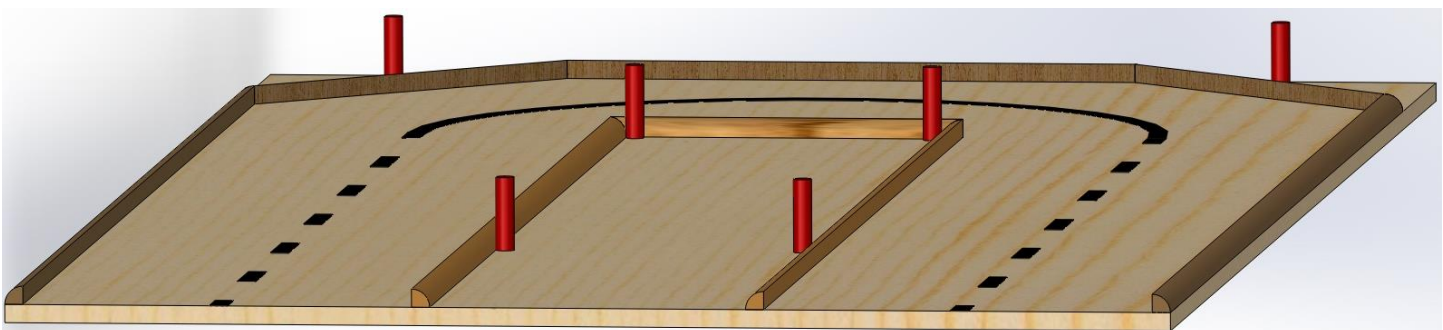
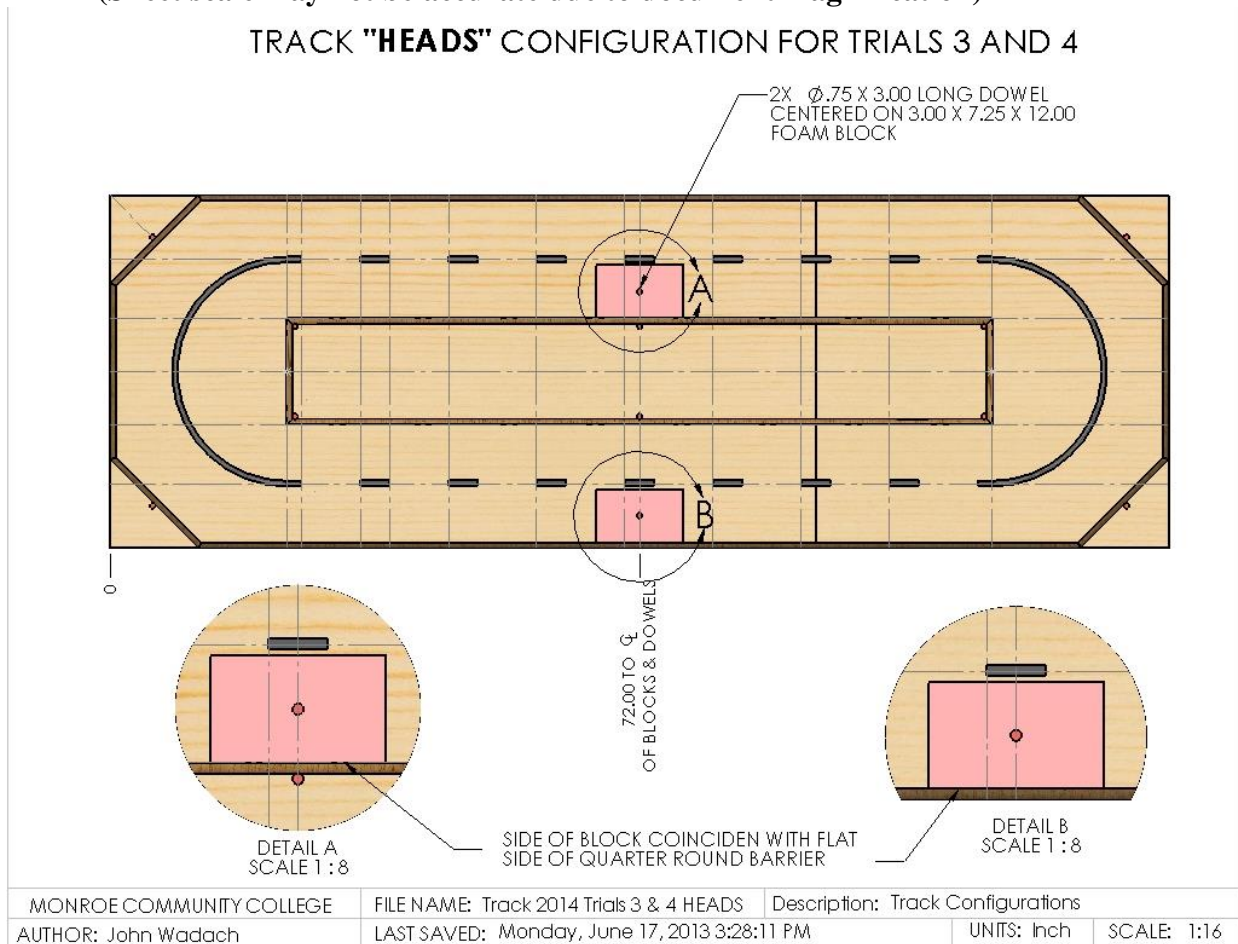

Figure 4: Isometric View of the Track in the “HEADS” Configuration for Trials 3 and 4
Figure 6: Isometric View of the Track in the "TAILS" Configuration for Trials 3 and 4
- b. The judge will flip a coin to determine whether the two foam blocks and dowels will be configured in the "Heads" (figures 4 and 5) or "Tails" (figures 6 and 7) configuration.